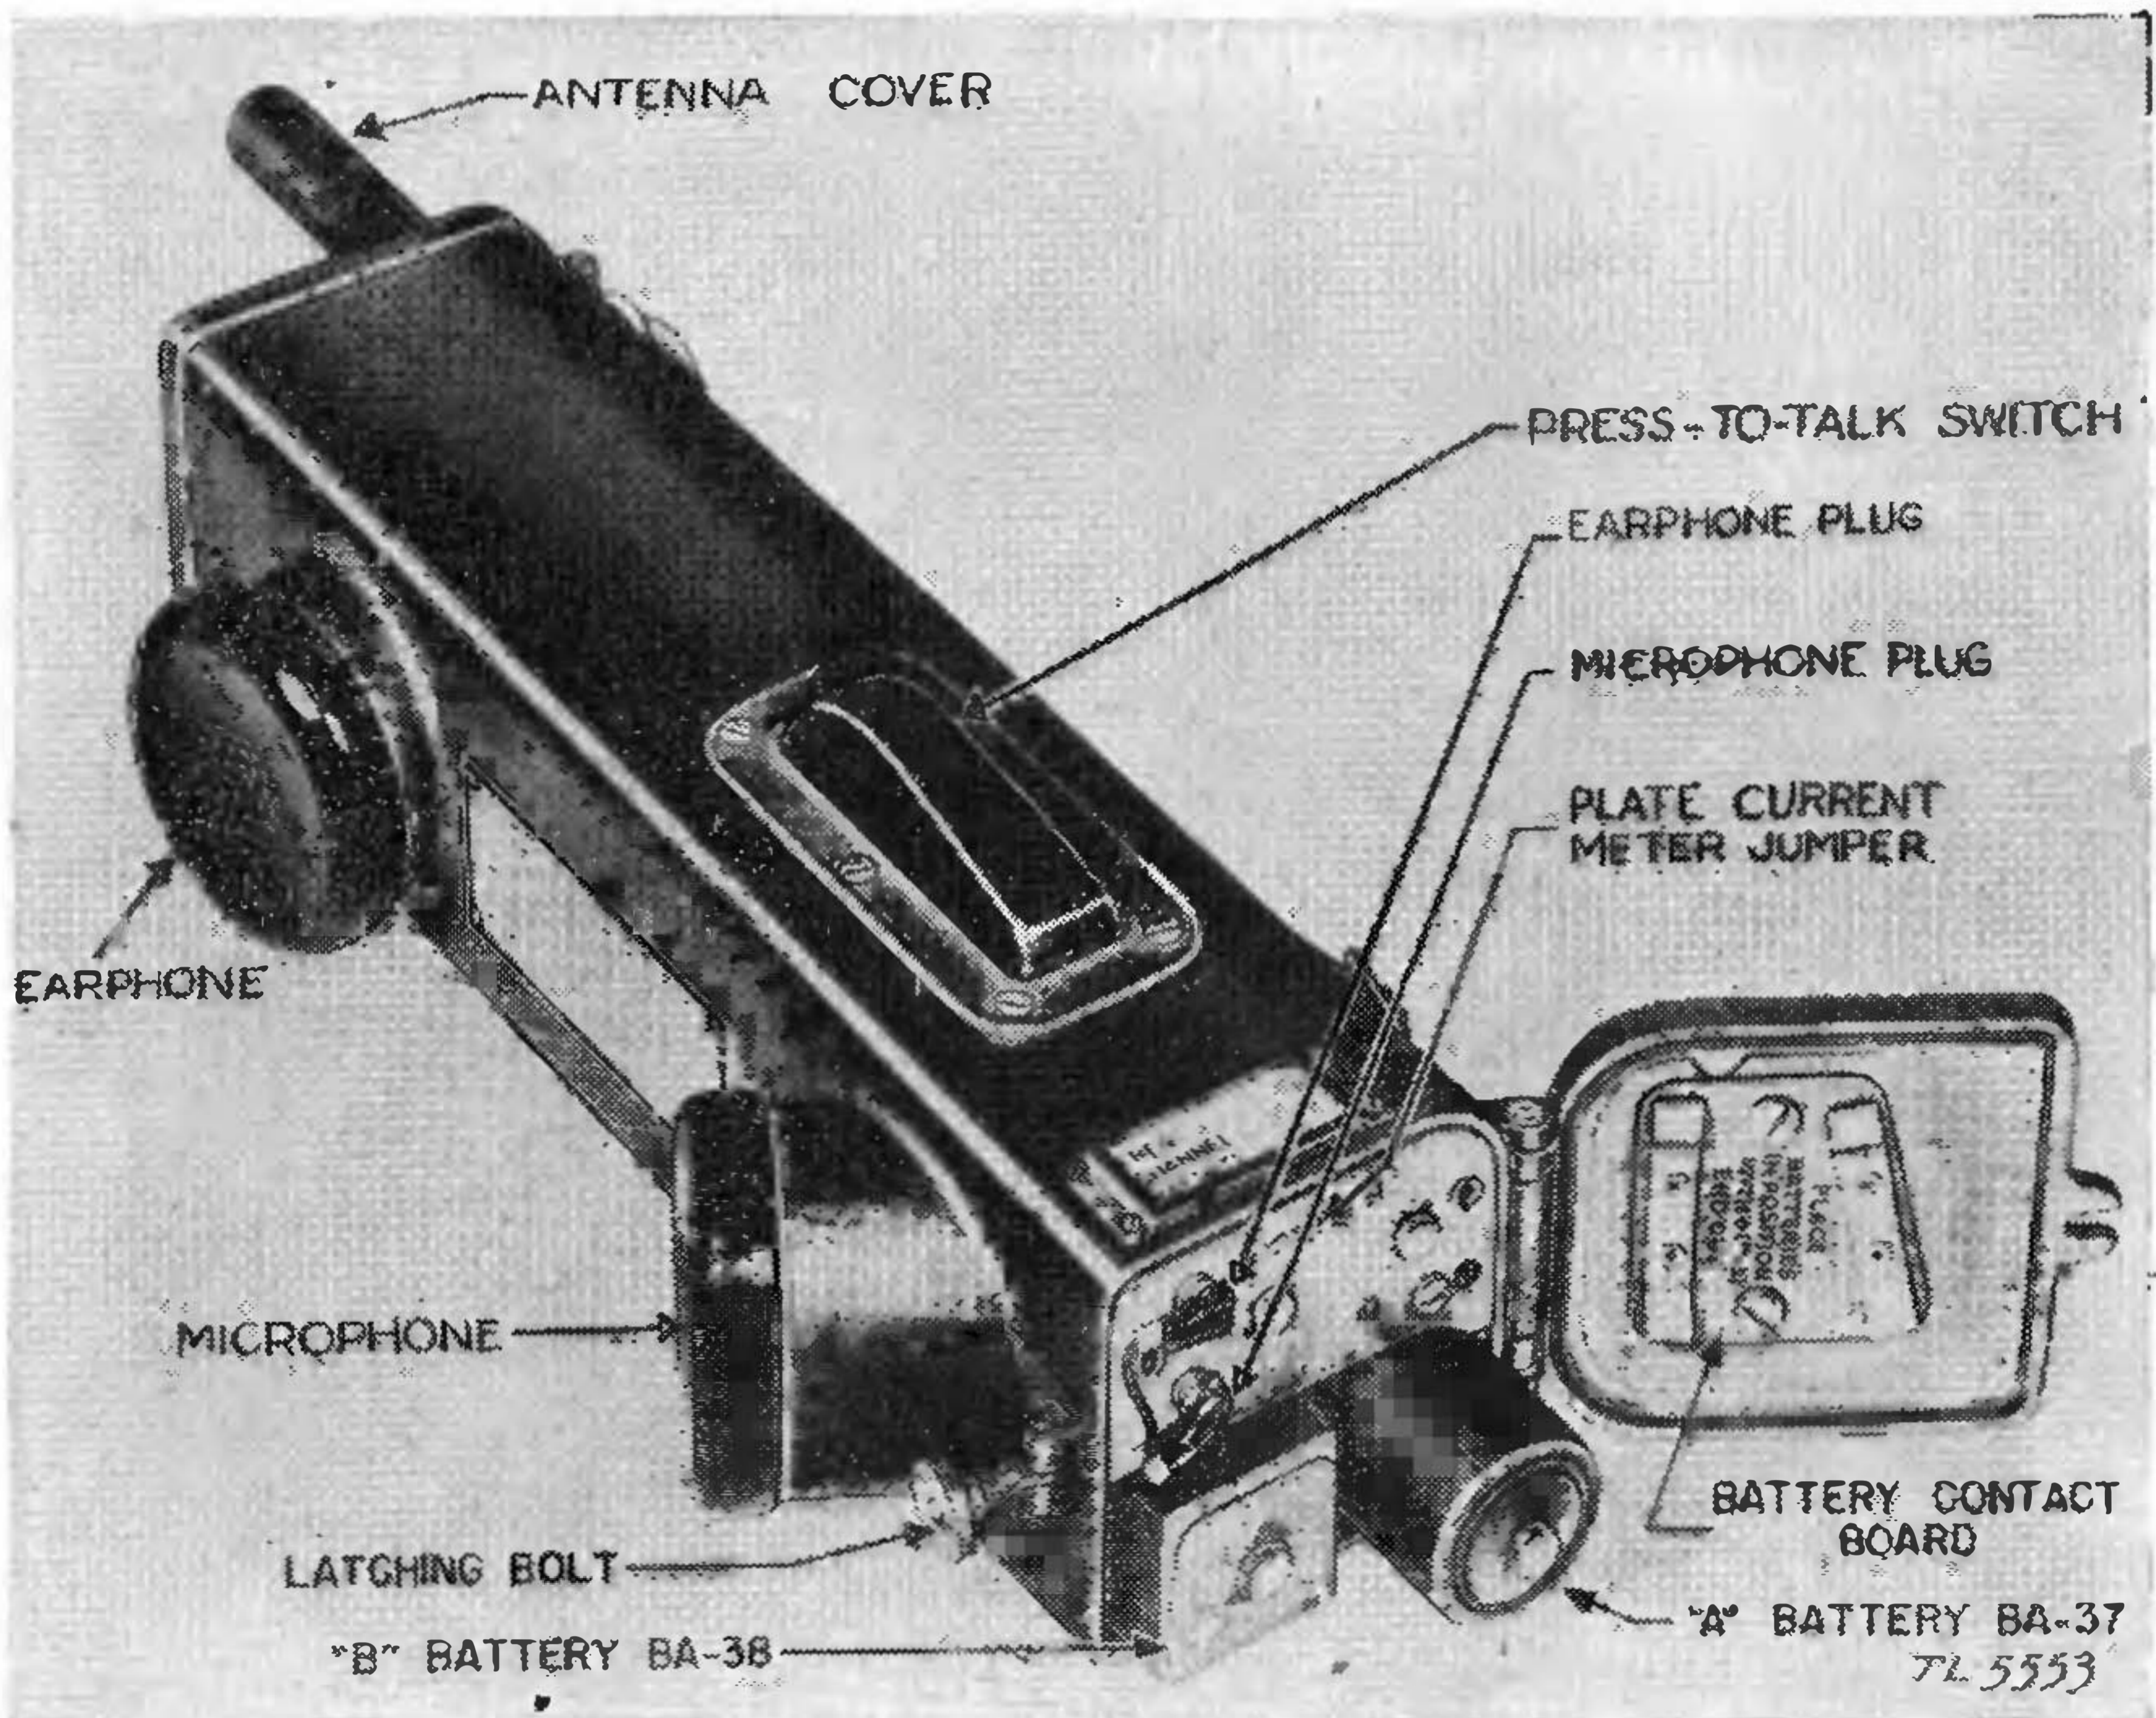

FIGURE 1.—Radio set SCR-536-(\*)—showing battery compartment.
*b.* The set may be held in either hand when operating, although it is designed and balanced for left-hand operation. The microphone and earphone are attached to the case in such manner that the set resembles a hand telephone. An adjustable carrying strap is attached to the case. (See figs. 1 and 2.)
4. Source of power and power requirements.—Radio receiver and transmitter BC-611-(\*) is battery powered. Space for both A and B batteries is provided in the housing. (See fig. 1.)
8. Controls.—*a. Send-receive.*—A press-to-talk switch, conveniently located under the finger tips when the radio set is held in normal operating position, is the only control required for operation of this equipment. (See fig. 1.)
*d.* A small card holder below the press-to-talk switch contains a plastic card on which the operating frequency and date of battery replacement are marked. This card is protected from wear by a transparent cover. To remove the card from its container the bottom cover must be opened. (See fig. 1.)
*b. Installation of batteries BA-37 and BA-38.*—Open the radio set bottom cover by turning the latching bolt knurled nut in a counterclockwise direction, until the nut begins to turn with difficulty. Then press the cover against the case and push the bolt away from the housing. Release the cover and it will open. (See fig. 1.)
(1) Battery BA-37 (filament or A battery) is cylindrical in shape and fits into the round compartment of the radio set housing. Insert the battery into the housing with its positive end out. The
(2) Battery BA-38 (B battery) is oblong in shape and fits into the oblong compartment of the radio set housing. It also must be placed into the battery compartment with the positive (+) end out. The positive terminal is marked with a large plus (+) sign and also can be identified by the small raised metal button.
(3) After the batteries are installed close the bottom cover of the radio set by pressing the cover against the housing with one hand, while the other hand moves the latching bolt into the cover slot and tightens the knurled nut by turning it clockwise. The cover then should be pressed against a solid object and the knurled nut tightened by hand until it turns with great difficulty. This will assure positive contact between batteries and battery contacts.
a. Unscrew the antenna cap which covers the telescopic antenna. (See fig. 1.) To prevent losing it, this cap is attached to the housing by a small chain. Screw the cap on the threaded metal stud on top of the housing. This will prevent the cap from rattling against the housing when operating the set. See that the chain is *not* wrapped around the antenna rod and that there is no chance of it touching the rod.